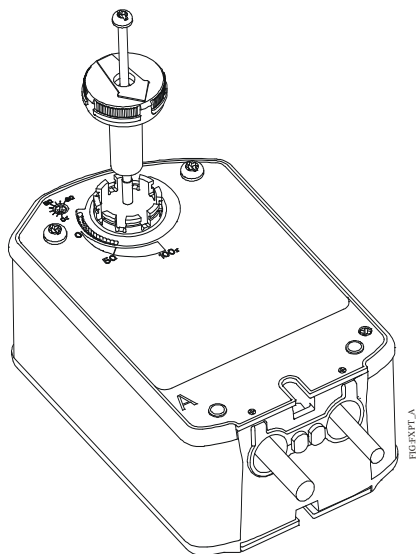

Figure 8: Installing the Fixed Pointer
6. Insert fixed pointer and M4x0.7x83 mm long screw into the Side A actuator hub. Direct the arrow on the pointer to 100% (Figure 8).